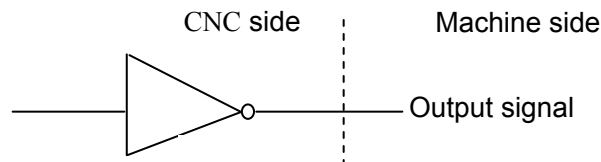

Fig. 2-30
2. TL+, TL- are tool post CCW/CW output signal, its interior circuit is shown in Fig.2-30: